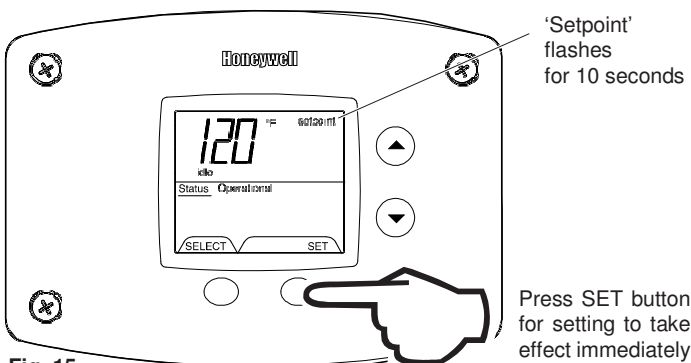

Fig. 15
3. Press 'SET' button for new setting to take effect immediately. 'Setpoint' will stop flashing. If the "SET" button is not pressed, the new temperature setting will take effect in approximately 10 seconds (Fig. 15).